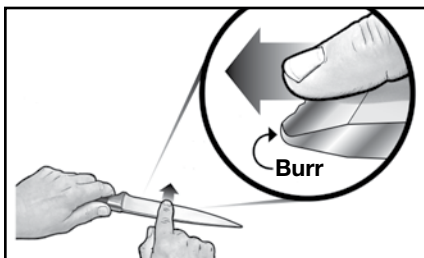

Figure 5. Feeling for the burr.
alternately in left and right slots of Stage 1 until you can feel a burr along the right side of the edge following a pull through the right slot of Stage 1. See Figure 5 (feeling for burr). Then pull the blade through the left slot of Stage 1 and inspect for a burr along the left side of the edge. It is critical that a burr be formed along the entire edge length after each right slot and left slot pass. The burr will not be formed until the sharpening in Stage 1 is complete; it forms only on the side of the edge away from the abrasive surface. With harder steel knives, a burr is formed but it is smaller and not as evident as with softer steel blades. Do not proceed to Stage 2 until the burr is detected along the entire length, first on one side of the edge and then again after sharpening the other side, as described above. Continue sharpening in Stage 1 until this occurs. Complete PRE-SHARPENING with two (2) fast pulls, one (1) second each, alternating between the left and right PRE-SHARPENING slots.*